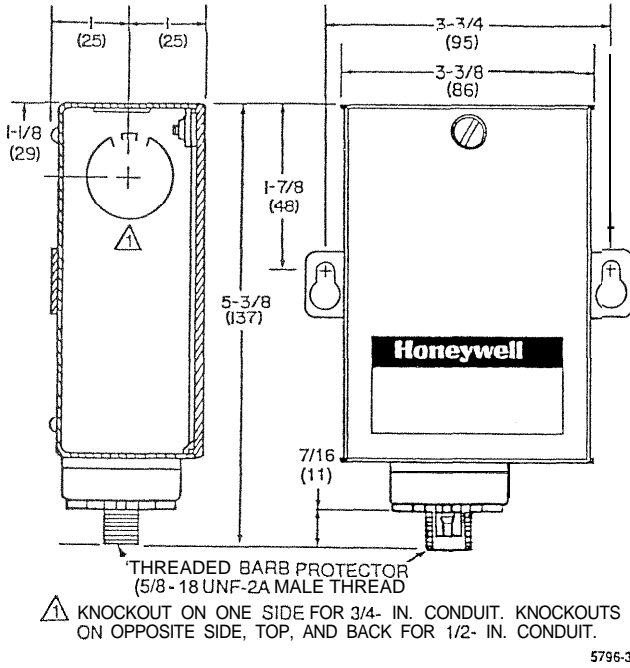

Fig. 1. P658A Switch Approximate Mounting Dimensions in Inches (Millimeters).
1. Mount P658A to wall using two No. 10 screws through keyhole slots in bracket on 3-3/4 in. (95 mm) centers (Fig. 1).